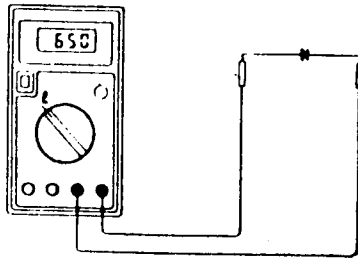

Fig 5-6 Diode measurement
2. Set the FUNCTION switch to the $\rightarrow|$ range and connect the test leads across the diode under measurement see Fig 5-6.